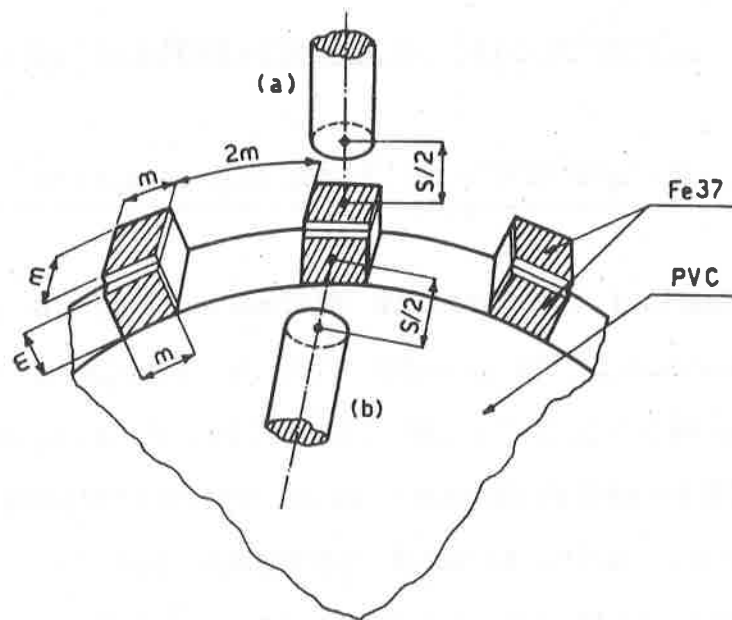

FIG. 1.16
- **Operating frequency:** this parameter is measured with the dynamical method shown in the fig. 1.16 (according to the standard CENELEC EN 50010), with the sensor in the position (a) or (b); S is the nominal intervention distance.